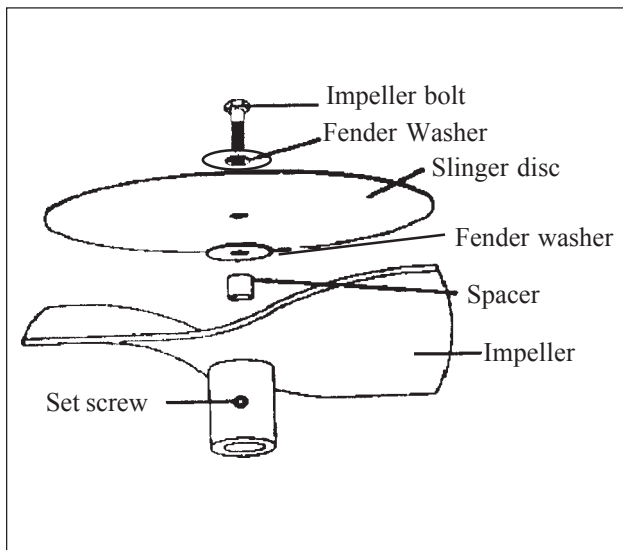

Figure 11
D. Attaching impeller. - see Figure 11